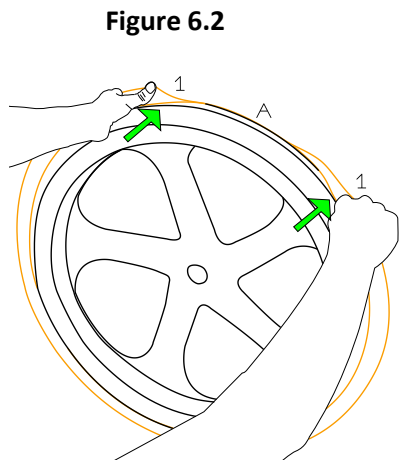

Figure 6.2
- Peel the tyre from the rim (Figure 6.2, 1).